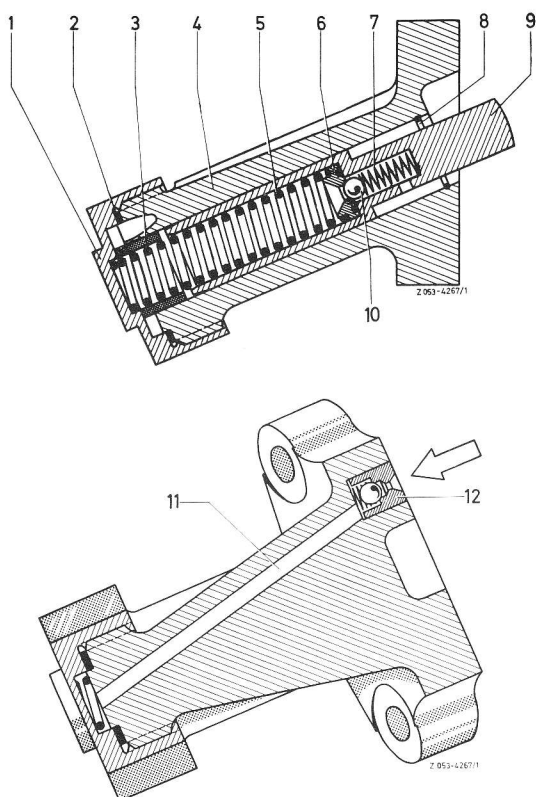

Fig. 1
Actuation of the thrust bolt (9) will fill the chain tensioner with oil coupled with a simultaneous venting job (Fig. 1).